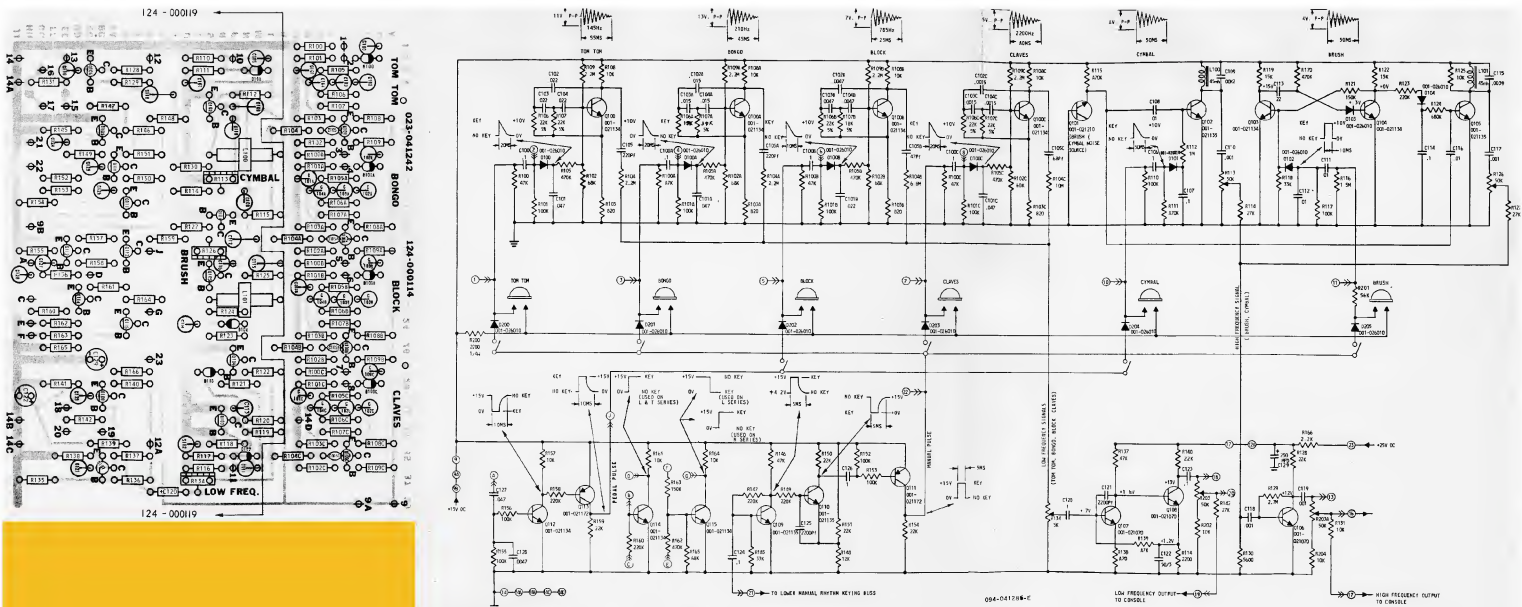

FIGURE 5-6.
4-8. OUTPUT LEVEL ADJUSTMENTS.— The rhythm volume levels are set at the factory, and will normally require no adjustment. In case it is found necessary to replace a part on the rhythm board, 124-000114, adjustment will be required. To adjust output levels, proceed according to the following. A VTVM, Millivolt Commander, Model 870, or equivalent is required. See Figure 5-6 for locations of controls.
- a. Connection to corresponding pin of PWB, 124-000114, See Figure 5-6.